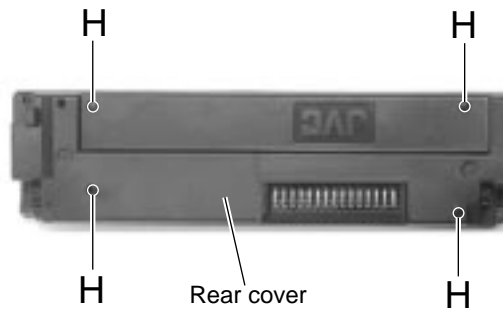

Fig.11
■ Removing the control switch board (See Fig.11 to 13)